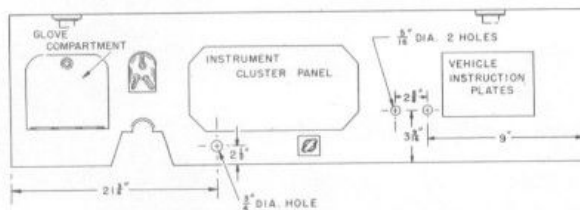

Figure 1
1. Using the dimensions shown in Figure 1, drill a $\frac{3}{4}$ -inch hole in the instrument panel for the engine primer pump. Be careful when drilling this hole not to damage wiring which is on the back of the instrument panel near this point.
2. Using the dimensions shown in Figure 1, drill two $\frac{5}{16}$ -inch holes in the instrument panel of the vehicle. Attach the mounting bracket to the control box, using the screws which were installed fingertight in the side of the bracket, and then attach this assembly to the instrument panel, using the screws which originally held the mounting bracket to the